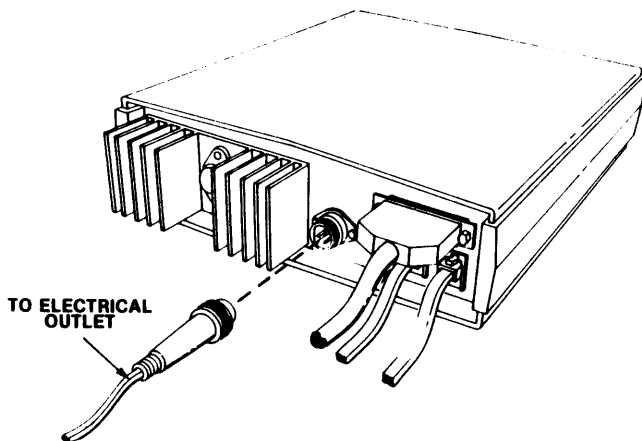

Figure 1-6 Power Cord Connection
6. Attach the AC power cord to the POWER connector on the modem (see Figure 1-6). Plug the power pack into the AC power source (usually a wall outlet).